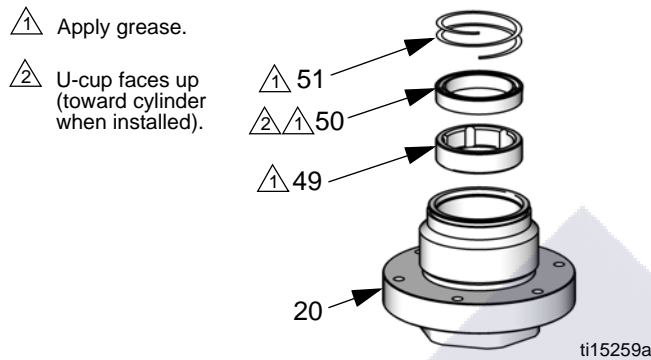

FIG. 11. U-Cup throat seal
13. **U-Cup Models:** Use an o-ring pick or pliers to remove the spring clip (51), the u-cup (50), and the bearing (49). FIG. 11, page 15.
14. Remove and discard the packing nut top o-ring (2) and bottom o-ring (21).
15. Put the hex of the piston rod (31) in a vise. Use a 1/2 in. hex wrench to remove the flow-through nut (44) from the bottom of the piston (45).
16. Remove the o-ring (32) and seat (46). Remove from vise and tip out the check ball (47).